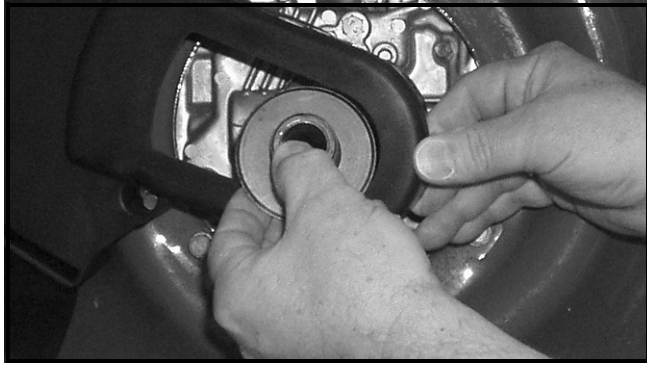

FIGURE 10
26. Carefully lift the front portion of the main baffle sufficiently to remove the lower half of the engine pulley. See Figure 10.
72. Re-install the lower pulley half onto the crankshaft. Ensure the belt is not trapped against the crankshaft. Refer to Step 26 and Figure 10.